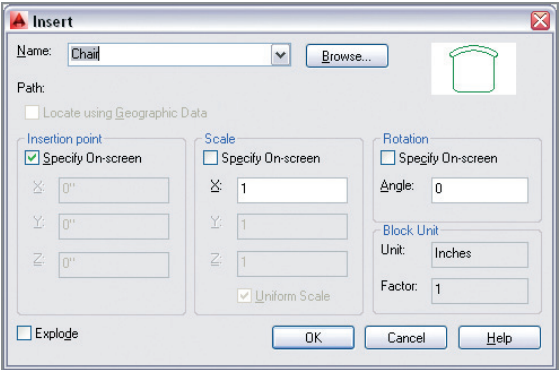

FIGURE 7.9 Selecting the Chair block definition in the Insert dialog box
5. Click the Insert tool on the Block panel on the ribbon's Home tab. Open the Name drop-down list in the Insert dialog box and select Chair. If it's not already selected, choose Specify On-Screen in the Insertion Point section of the Insert dialog box (see Figure 7.9). Click OK.